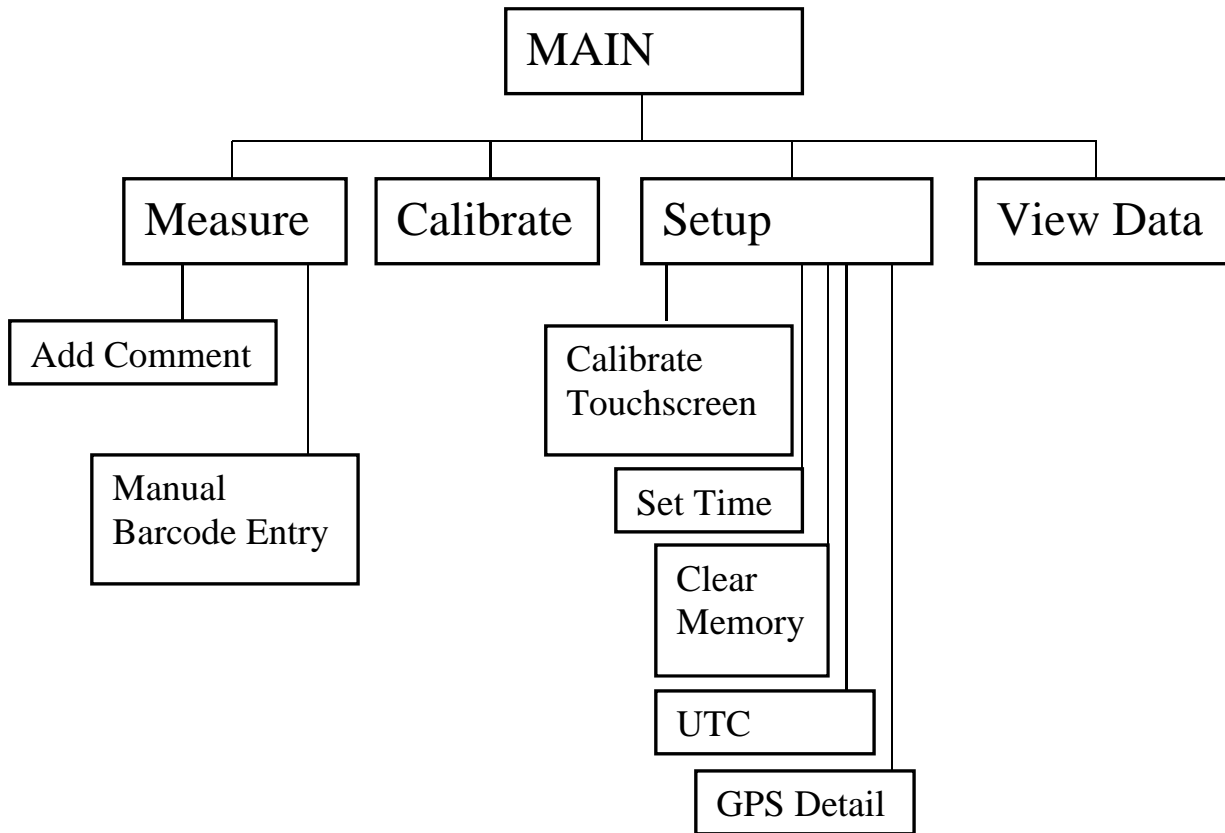

Figure 3-1 922 Flowchart
1. If a calibration has just been completed the 922 will automatically enter the measurement screen. If however you are not in the Measurement screen please refer to the flow chart, Figure 3.1, on how to navigate to this screen.
1. Enter the setup screen through the main screen (refer to Figure 3.1)